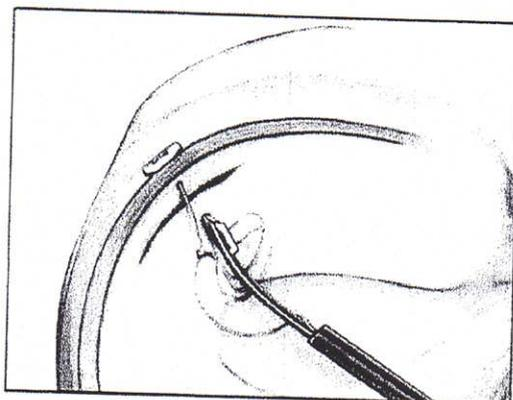

Figure 5. Implant 2 fully advanced to the ready position
- Using the tip (rather than the volar pad) of the thumb, slide the gold trigger forward to advance the second implant into the ready position (Photo 7 and Figure 5).